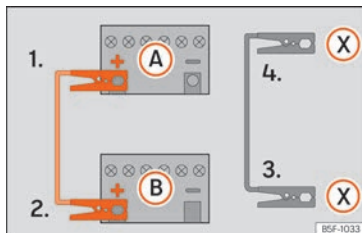

**Fig. 55** Diagram of connections for vehicles with Start Stop system
- 4b. *In vehicles with a Start-stop system:* connect one end of the **black** jump lead (X) to a suitable ground terminal, to a solid piece of metal in the engine block, or to the engine block itself » » » Fig. 55.
5. Connect the other end of the **black** jump lead (X) to a solid metal component bolted to the engine block or to the engine block itself of the vehicle with the flat battery. Do not connect it to a point near the battery (A).